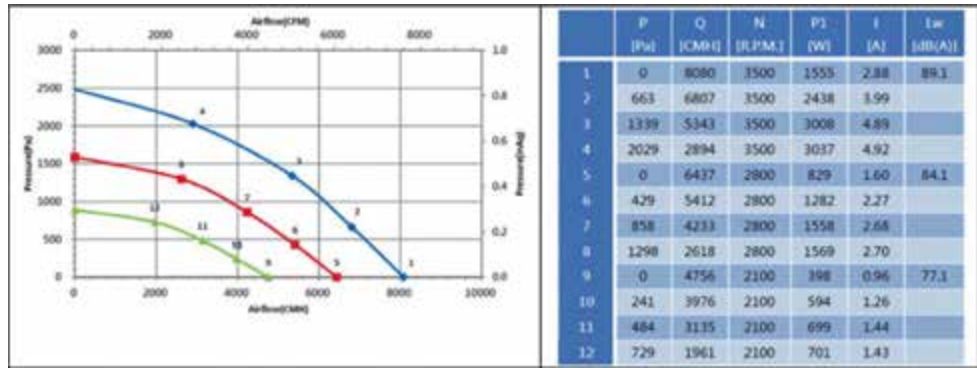

Figure 2: Suppliers usually specify several characteristic curves for their fans for operation at different speeds.
Such characteristic curves are shown in Fig. 2. The airflow is plotted on the X-axis and the pressure (in units Pa and inAq) on the Y-axis. The pressure is highest when the airflow is zero. In this case, the fan works with high resistance to the airflow, and the maximum static pressure (P_E) is created. At the same time, the dynamic pressure (P_D) is zero, which means that no airflow is generated. At this point P_T = P_E.
Figure 2 also shows that when the pressure in the fan is zero, the maximum airflow is achieved. Since there is no resistance to the
To calculate a fan's operating point (OP), it is recommended to consult with the supplier, as they have the necessary technical means to perform simulations. However, the approximate OP can also be calculated. To calculate the operating point with the lowest power consumption, the power consumption and current values listed in the table (Fig. 2) are important data.